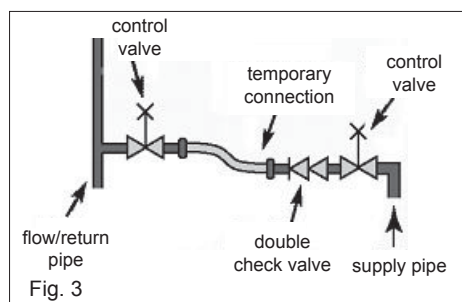

Fig. 3
- Locate the filling valve connections (usually beneath the boiler, see fig. 3).